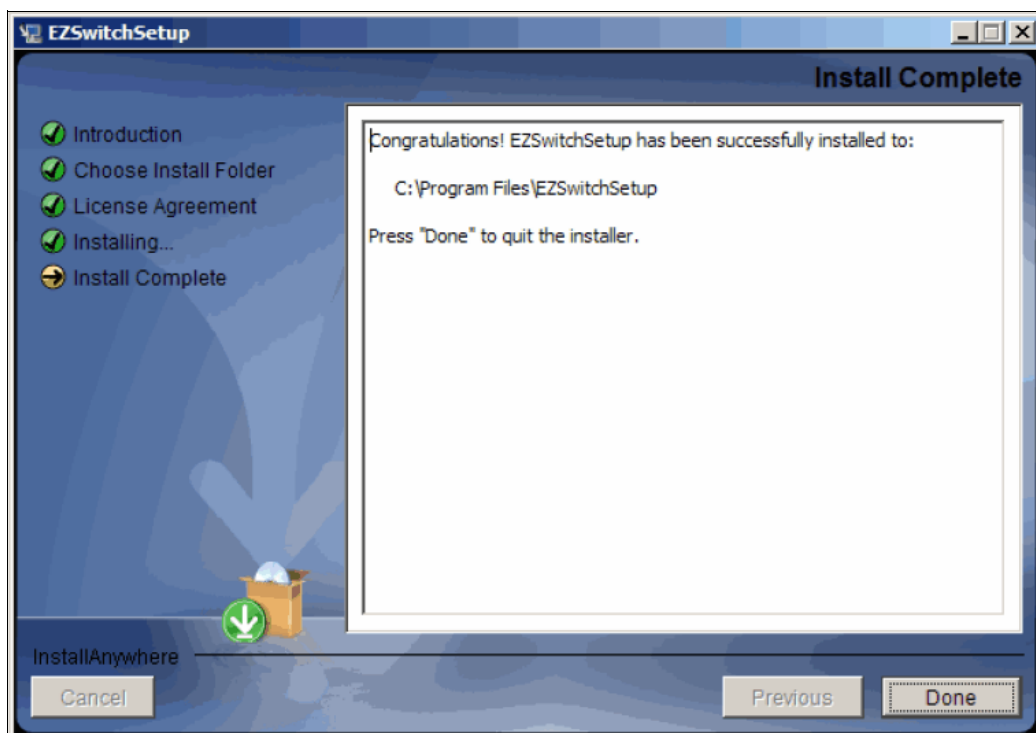

Figure 4-1 EZSwitchSetup installation summary
3. Click **Done** on the last window (see Figure 4-1) to exit the installer.